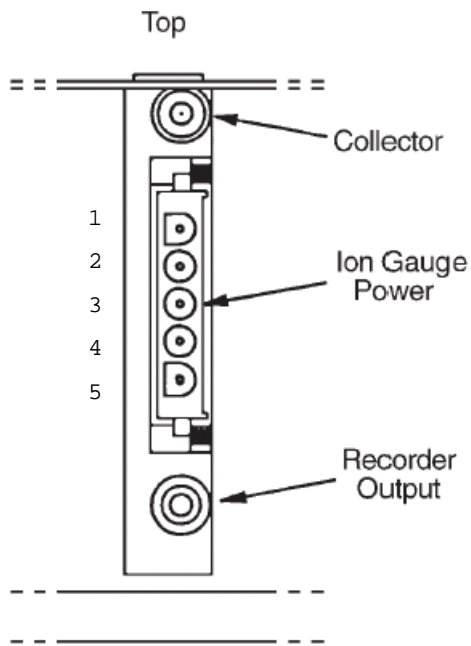

Figure D-1 Bayard Alpert Card Connections
Cable Length	Standard cables with lengths of 10, 25, 50, 75, and 100 are available from stock. Longer cables are available on special order (Table D-2). Connections are made at the rear of the card as shown in Figure D-1.
1. Use Table D-2 and Figure D-1 to connect the board.